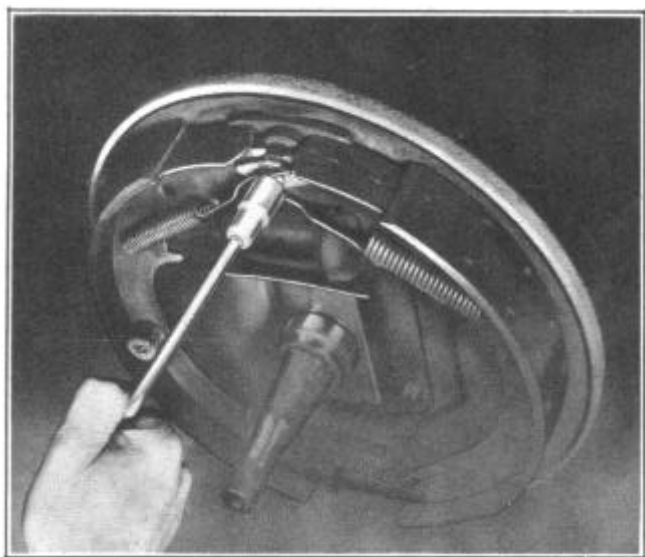

FIGURE 5
3. Using tool KMO-526, remove brake shoe retracting springs (39) Figure 1 by placing large end of tool over the anchor pin with the disengaging lug in the opening of the spring hook, rotate the tool 90 degrees and pull outward, Figure 5.